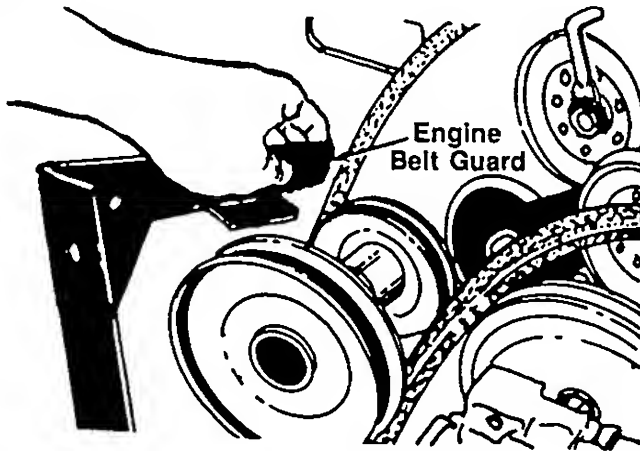

FIGURE 20.
7. Remove two hex bolts, nuts and lock washers from the engine pulley belt guard at lawn tractor frame to allow the engine pulley belt guard to drop down out of the way. See figure 20.